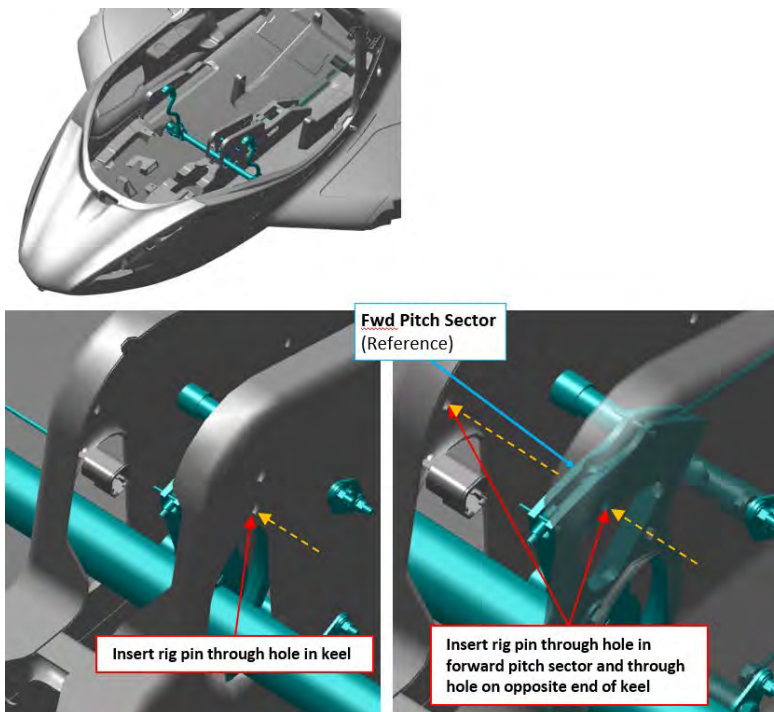

FIGURE 10-9
5. Install .250 in diameter rig pin through the center console and forward pitch sector. See Figure 10-9.